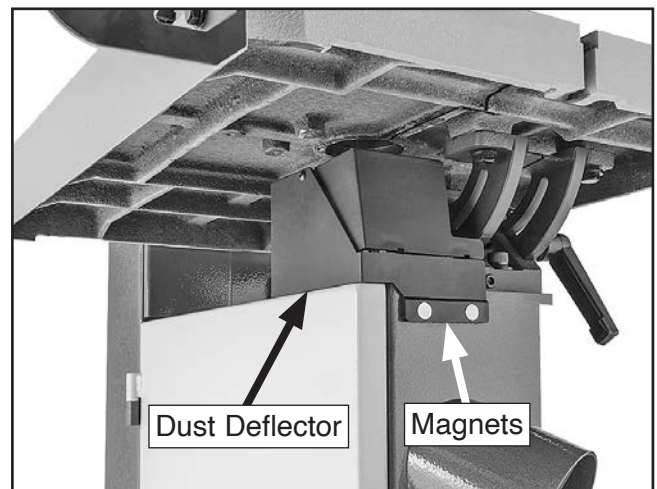

Figure 36. Dust deflector installed.
14. Install dust deflector under table so it rests on door and frame, as shown in **Figure 36**. Ensure (2) magnets on face of deflector attach securely to bandsaw frame.